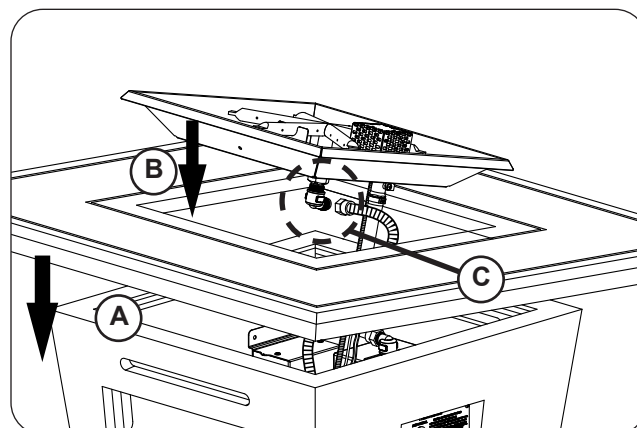

Fig. 28-2 Place top, burner, and connect flex
3. **Carefully** place the top on the unit (see Fig. 28-2, A).
4. Drop the burner assembly into the opening in the center of the firetable top, with the two burner pan holes facing toward the door (see Fig. 28-2, B).
5. Locate the flex connector (marked OUT) that is coming off the valve assembly. Route it to the connection found on the underside of the burner assembly and connect. Tighten securely. See Fig. 28-2, C.